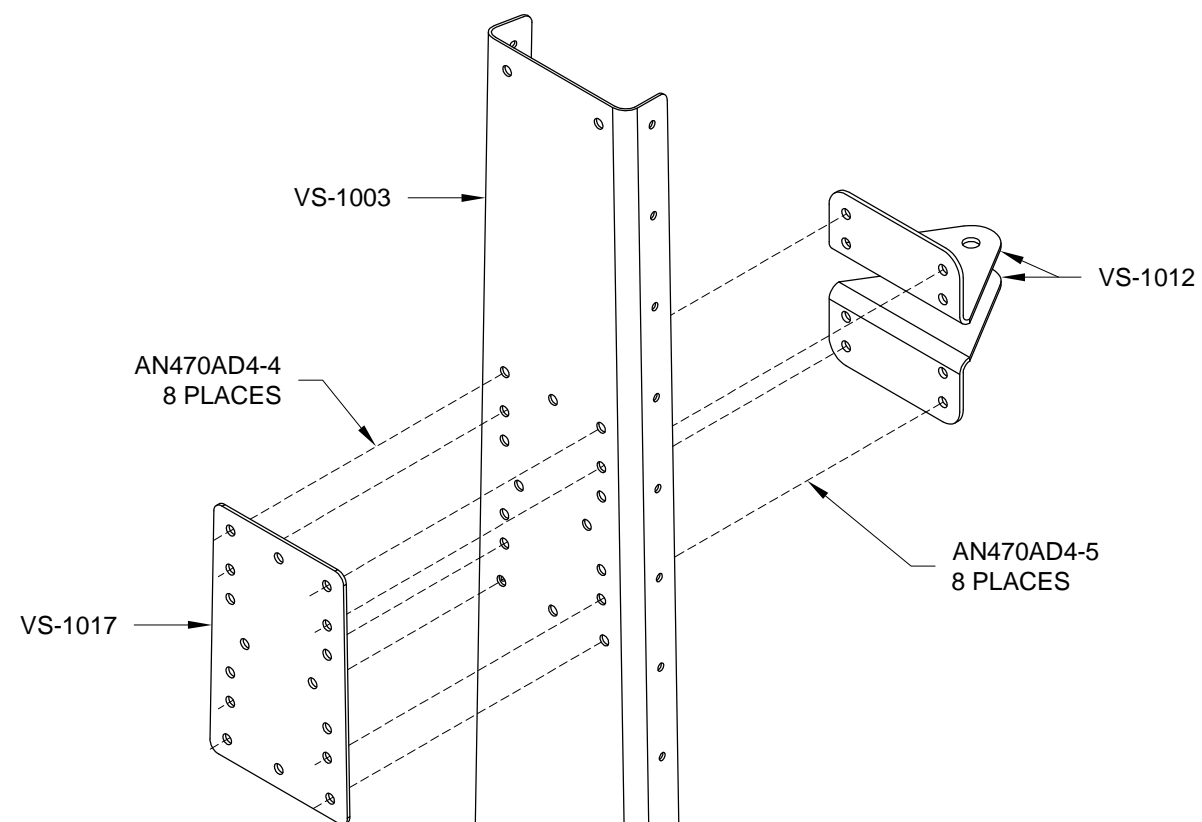

FIGURE 1: TOP RUDDER HINGE BRACKET AND HINGE DOUBLER RIVETS
Step 1: Attach the VS-1012 Top Rudder Hinge Brackets and the VS-1017 Hinge Doubler to the VS-1003 Rear Spar using the rivets called out in Figure 1.